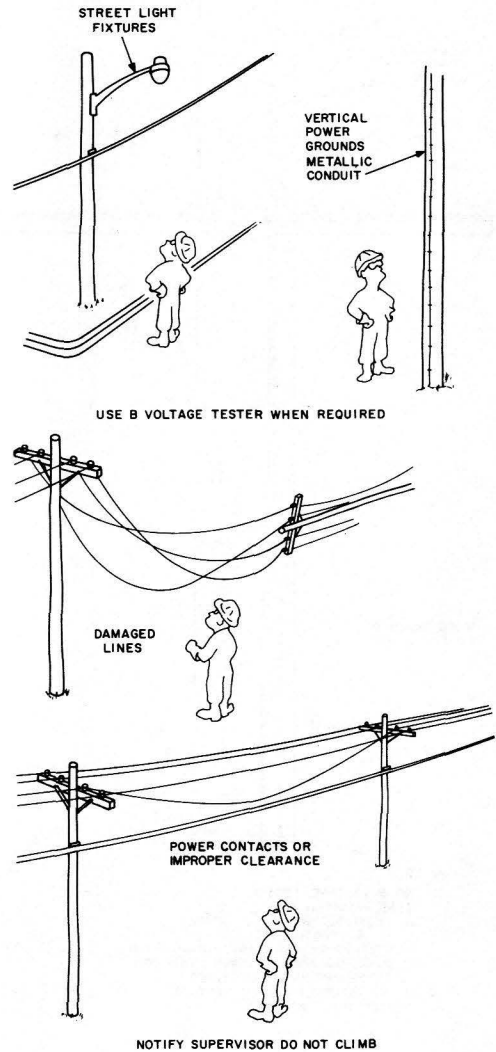

Fig. 6—Visual Inspection for Potential Electrical Hazards
6.01 Examine the pole for potential electrical hazards (Fig. 6) such as a vertical power ground wire, vertical metallic power conduit, street light fixture, power company primary disconnect hardware, or other foreign metal objects. Also, observe the pole and adjacent spans for such hazards as improper clearance from power conductors or equipment, dangling power wires, inadequate clearance on pole-to-pole guys from power wires or energized attachments, etc. If none of these are present, the pole may be ascended providing no other hazard is evident.